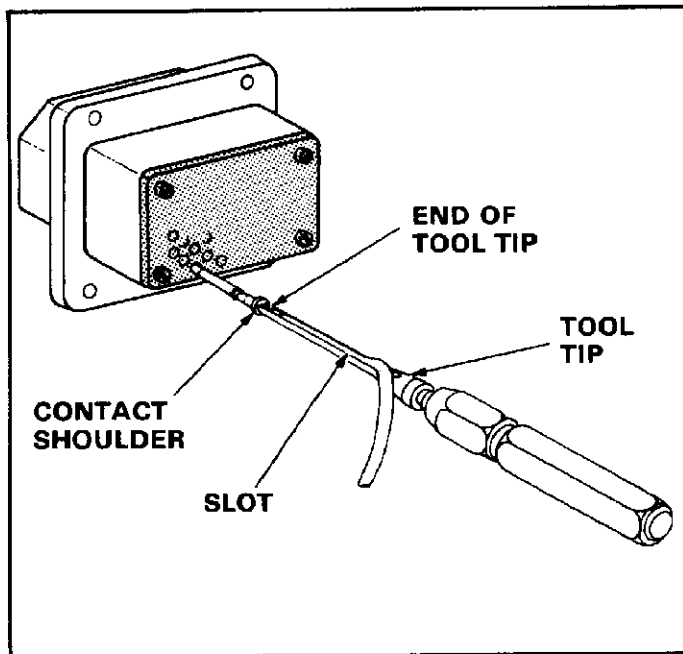

Fig. 6
5. CONTACT INSERTION (Figure 6)
1. Place the contact into the tool tip so that the shoulder of the contact butts against the end of the tip as shown in Figure 6.